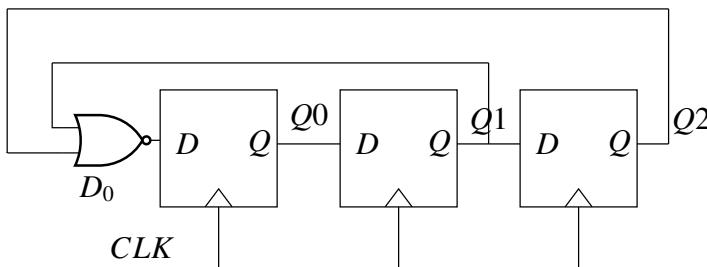

Fig. 5.4
- The digital circuit shown in Fig. 5.4